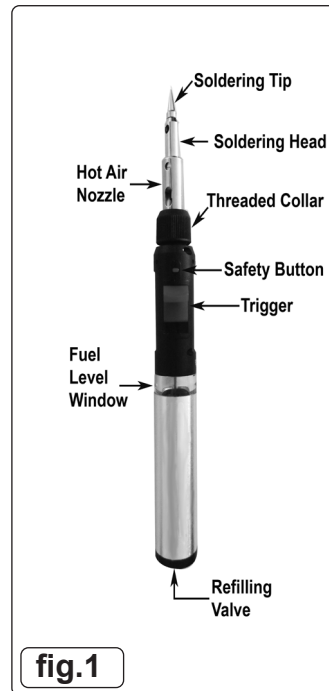

fig.1
- 4.1.1. Hold the torch upside down and insert the filling can's nozzle into the gas filling valve (fig.1). Press the nozzle into the valve and release gas. Once gas begins to seep out around the edge of the nozzle, the gas tank is full. Remove the filling can.
- 4.1.2. The fuel level may be checked by looking in the fuel level window (fig.1).
- 4.3.1. Ensure soldering tip (fig.1) is fitted, press the safety button (fig.1) and pull the trigger down. Once the flame is established, the trigger may be locked by sliding the trigger lock (fig.2) to the right.